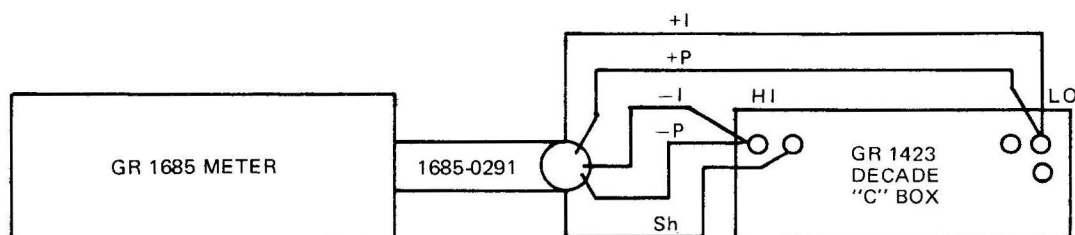

Figure 5-5. AC adjustment test setup, range 5.
e. Connect the 1685 as shown in Figure 5-5.
- Connect the 0.1- μ F capacitor as shown in Figure 5-5, without any resistor. Observe and adjust R107 if necessary so that the 1685 indicates 0.100 μ F.